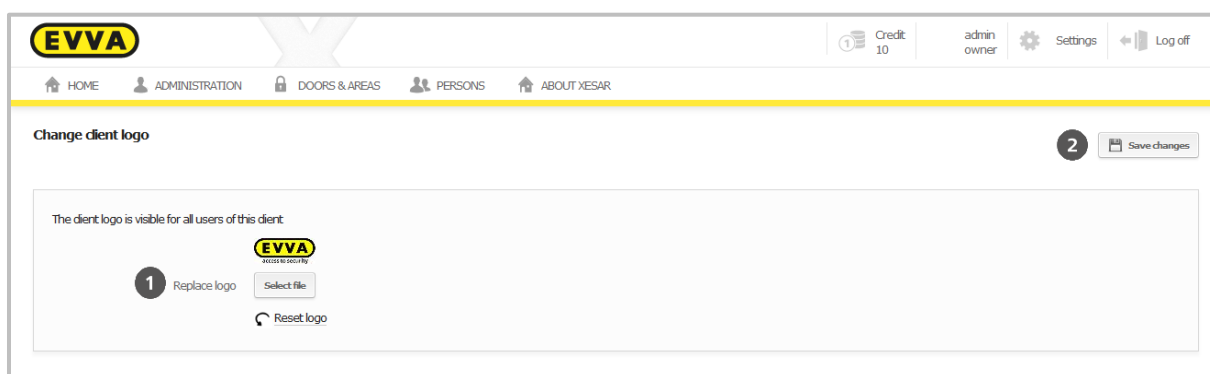

Figure 58: Changing the client logo
- **Select file ①** (Figure 58: Changing the )
- Click **Save changes ②** (Figure 58: Changing the )